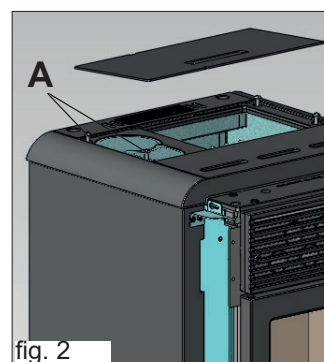

fig. 2
- Loosen (by about 15 mm) the two screws on the cast iron top under the steel cover (A - fig. 2).